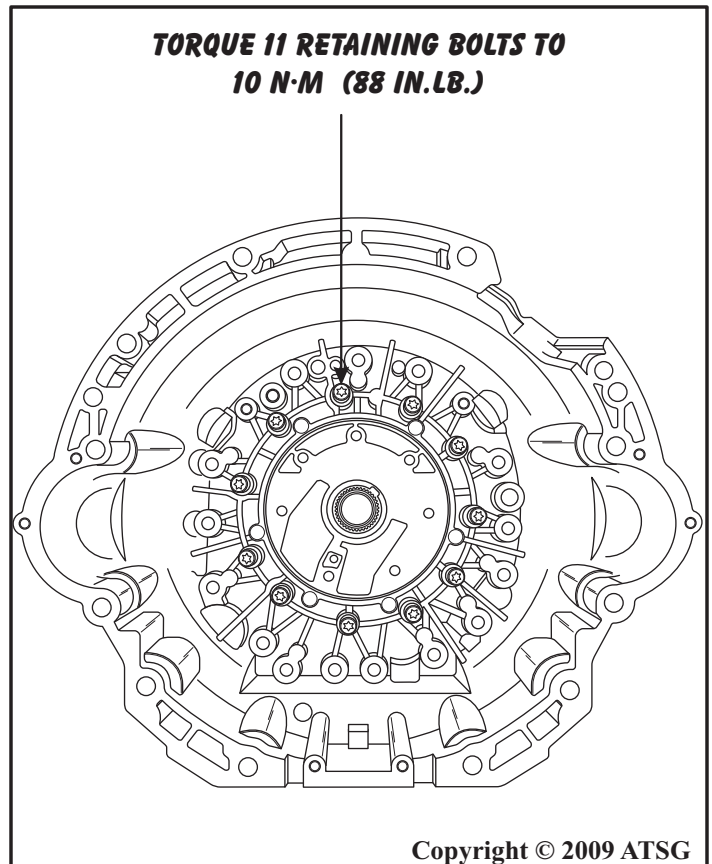

Figure 74
33. Torque the B-1 clutch housing retaining bolts to 10 N·m (88 in.lb.) (See Figure 74).